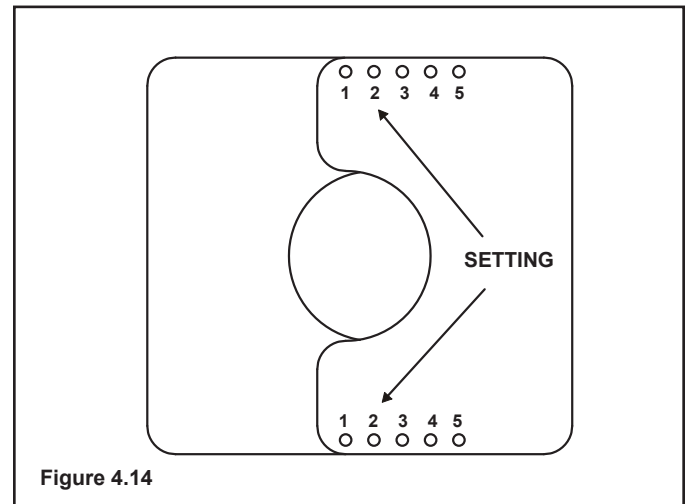

Figure 4.14
- Center the Flue Restrictor on vent and secure in place by using two self-tapping screws (see Figure 4.14).